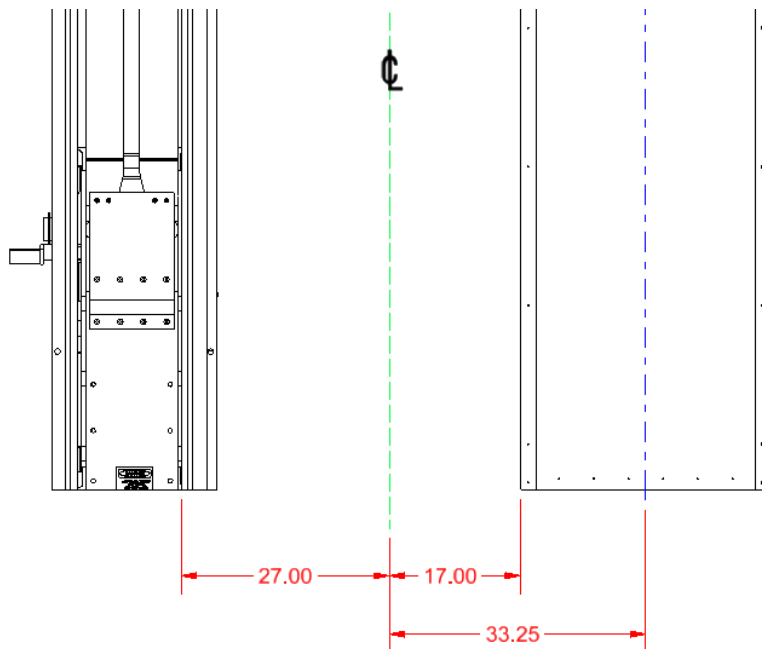

Figure 2
1. Unroll the Tracking Pad. Your starting point for installing the beginning of the pad should be right after the tire pressure switch at the entrance side of the tunnel (See **Figure 2**).